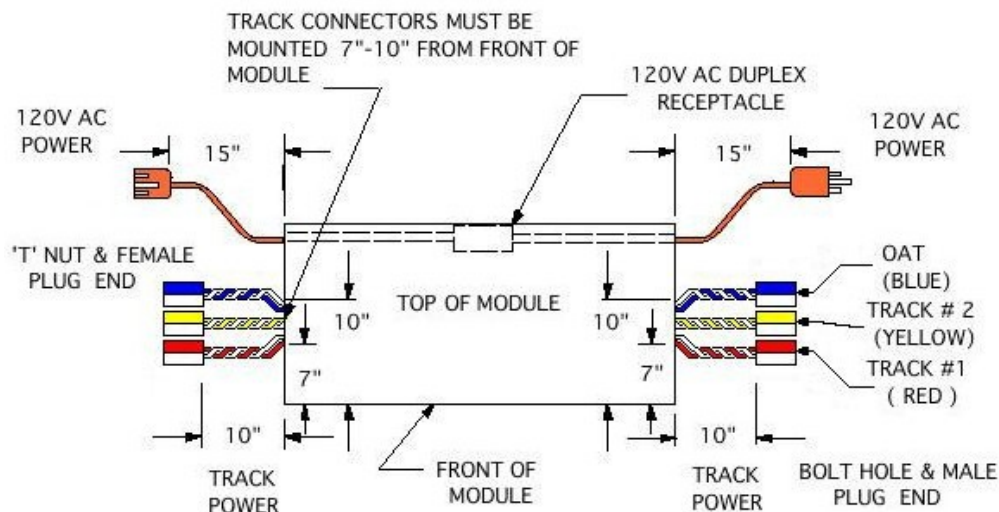

Figure 8: MODULE INTERCONNECTION CONNECTORS - WIRING
4. A 10 inch stranded 2 conductor, 14 gauge or larger, pigtail must be provided for each bus at each end of the module for connection to the adjoining module. The pigtails will be located 7"-10" from the front of the module using the connectors described in section D below. (Figure 8)
- C. The male plug is located at the right hand end of the module and the female plug at the left hand end of the module (as viewed from the front - see Figure 8)